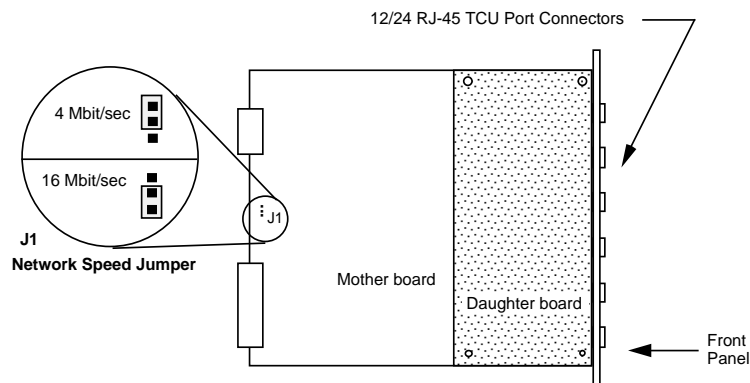

Figure 3-1. Network Speed Jumper
1. Position the hardware jumper on the proper pins on the concentrator module to select either 4 or 16 Mbit/s as the default network ring speed (see Figure 3-1). The speed setting is a factor in determining the maximum lobe length. Refer to Chapter 2, **Installation Requirements/Specifications** for additional information.